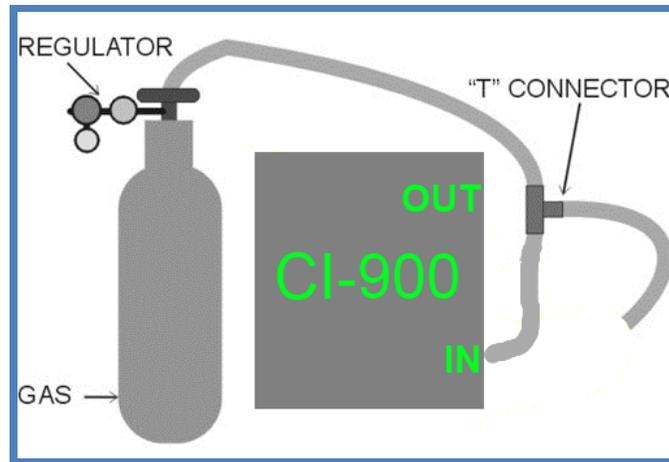

Figure 18: T-valve in tubing.
- Flow meter capable of measuring 200 mL/min and lower with accompanying T-junction (refer to Figure 18) OR an on-demand regulator (refer to Figure 17)
- If not using an On-Demand Flow Regulator, a T-valve must be used to release extra pressure to avoid damaging the F-900.** Always open the regulator very slowly and allow only 1-2 PSI (6-13 kPa) until the ethylene value starts to increase on the F-900, reference Figure 18.